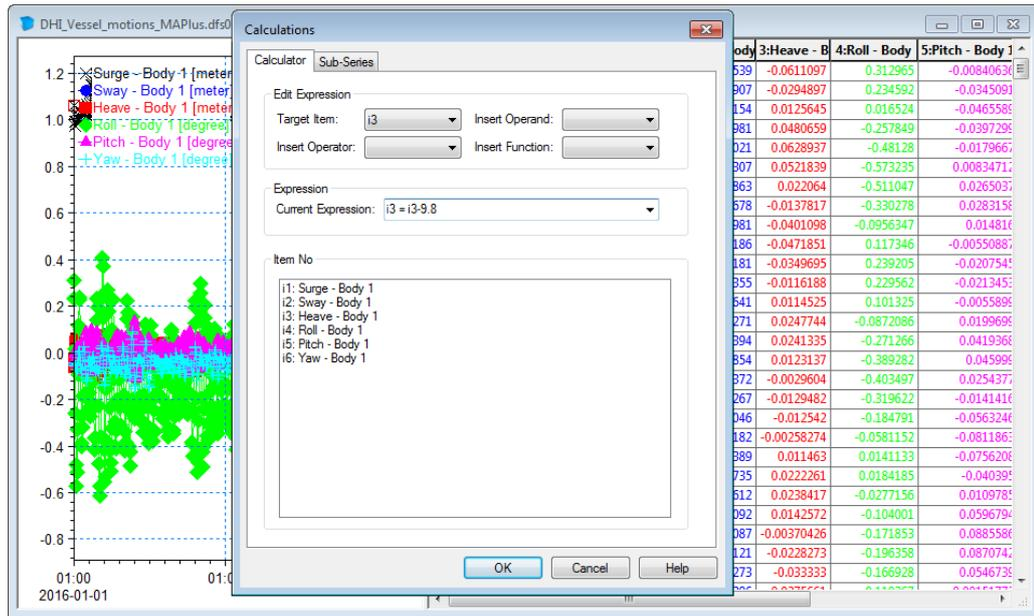

Figure 2.23 Modifying position of vessel to accommodate local coordinate system of 3DSolid.
2. Subtract 9.8 m from the third item (Heave) to account for the Draft of the vessel, see Figure 2.23. Press OK and save and close the file 'GenerateTSDData.mzt'.